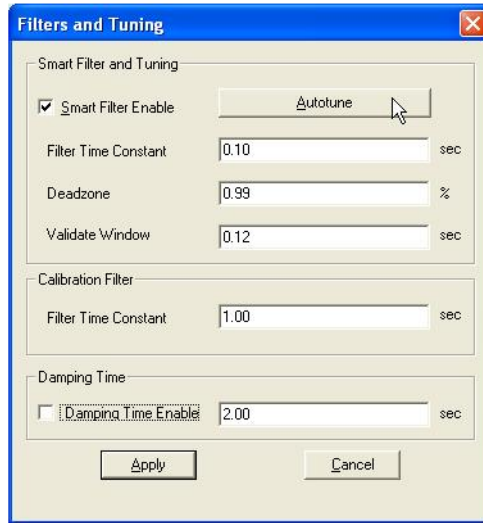

Figure 215 Starting Autotune
- Click **Autotune** (Figure 215).